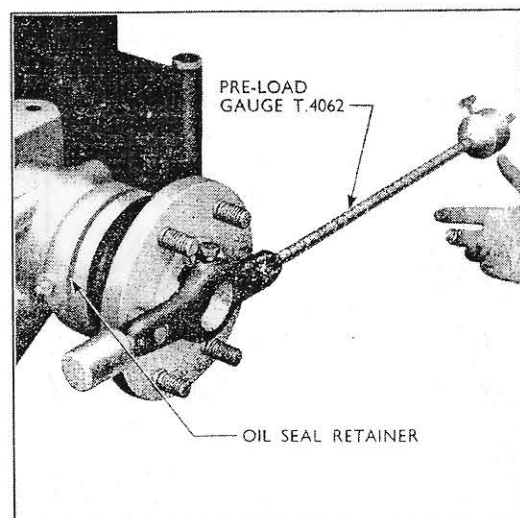

Fig. 5
5. Secure the shaft to the gear with the castellated nut, using the special wrench (Tool No. T.4065) and then pre-load the axle shaft bearings to 40-45 in. lbs. (.460-.518 kg.m.), using the pre-load gauge (Tool No. T.4062) as shown in Fig. 5. Securely split pin the castellated nut.